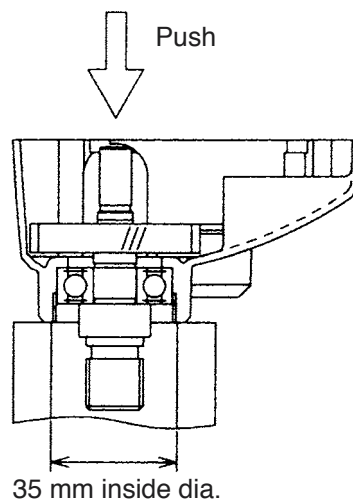

Fig. 12
3. As shown in Fig. 12, support the end surface of the Gear Cover Ass'y [8] <8> with an appropriate cylindrical jig (with about 35 mm inside dia.). Push the end surface of Spindle (A) [4] <4> with a hand press to remove the Final Gear [20] <20>.
4. Remove the Retaining Ring for D12 Shaft [6] <6> from Spindle (A) [4] <4>.
5. Remove the Ball Bearing 6201DDCMPS2L [5] <5> from Spindle (A) [4] <4> using the J-30 Bearing Puller (Code No. 970804).